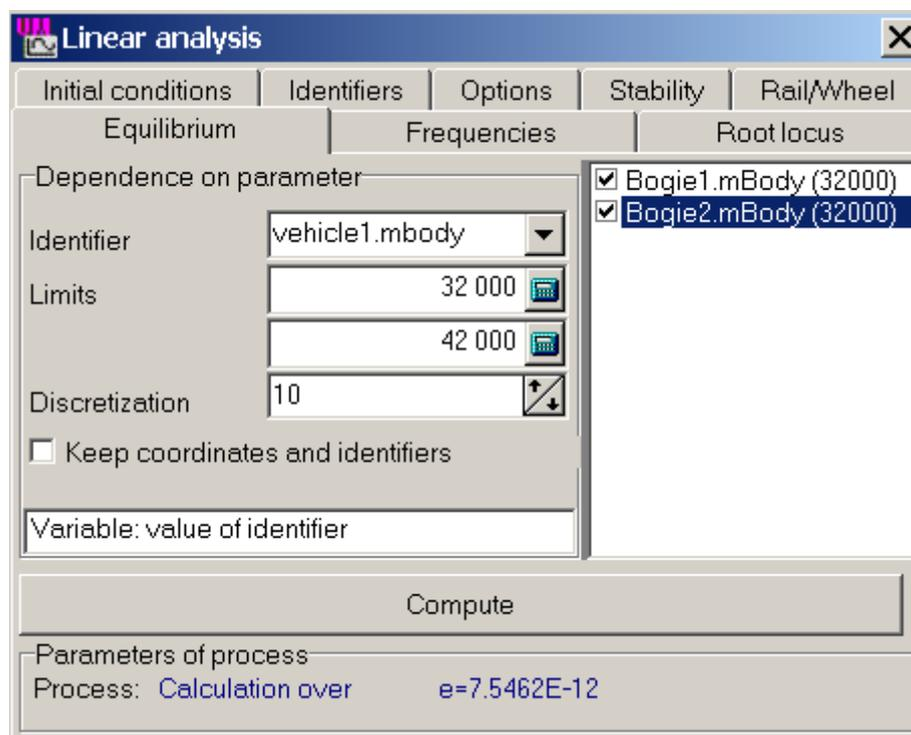

Figure 4.108. Preparing equilibrium computation in dependence on identifier
The *Equilibrium* tab is used for computation of equilibrium (Figure 4.108). Two modes of equilibrium computations are available.
- Select an identifier in the pull-down menu; if identifiers of the same name are presented in subsystems, check those which are changes simultaneously with the selected identifier (Figure 4.108 shows two checked identifiers of the same name *mBody*);